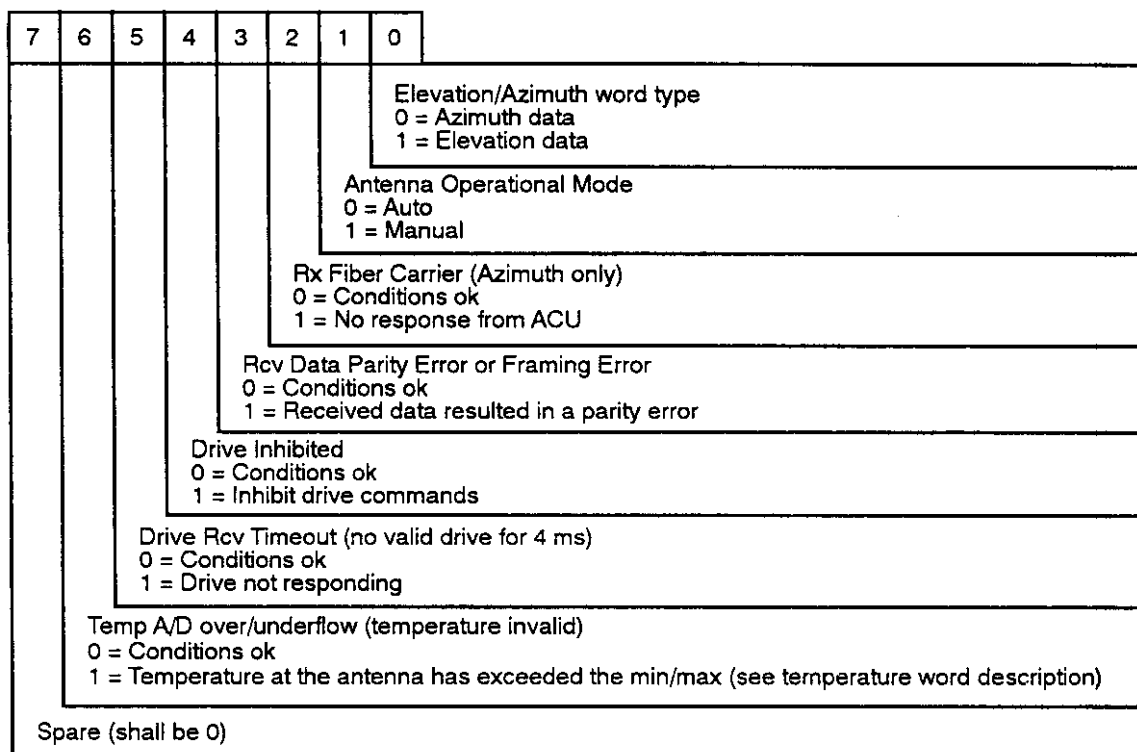

Figure 23. Elevation & Azimuth Status Words.
- Word 2: Status see Figure 23
Word 9: Status see Figure 23